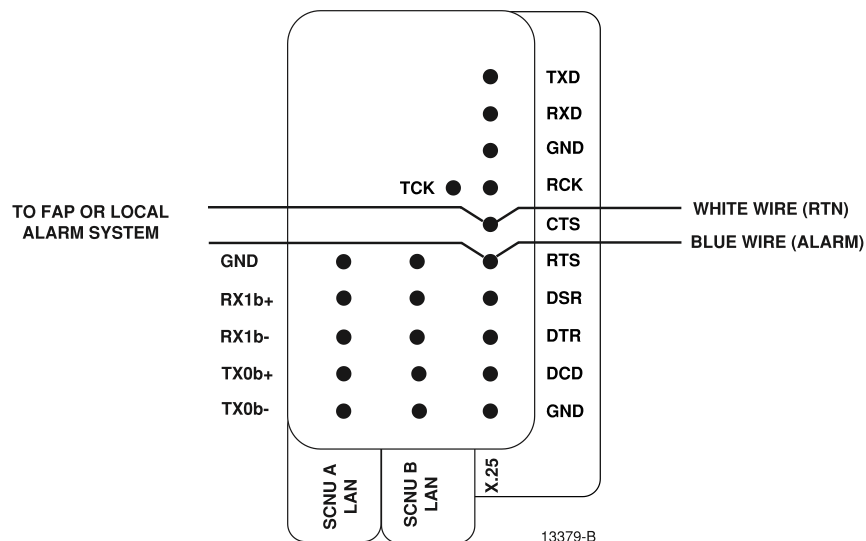

Figure 4-8. Fan Alarm Connections (Lower Wire-Wrap Pin Block)
3. Connect the fan alarm wire pair to the appropriate pins on the lower wire wrap pin block as shown in Figure 4-8. A white and blue wire will already be connected to the specified pins.